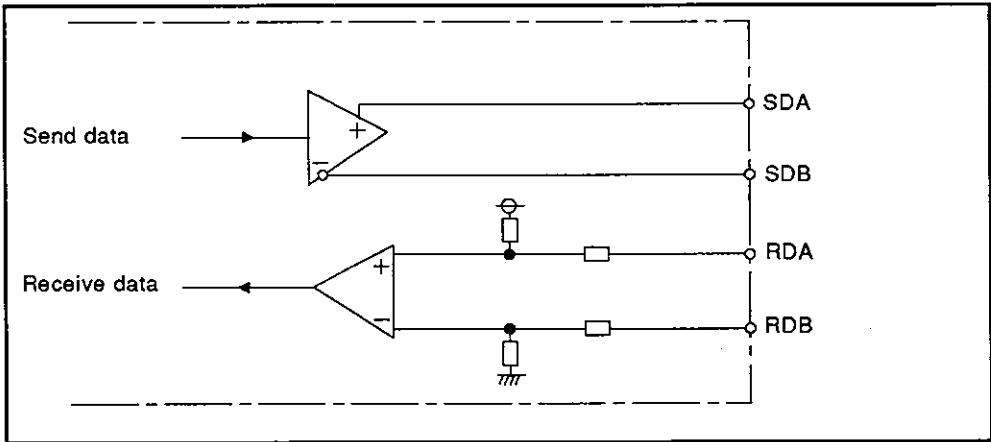

Fig. 12.2 Function Block Diagram of the RS-422/485 Interface
(2) Fig. 12.2 shows a function block diagram of the RS-422/485 interface.